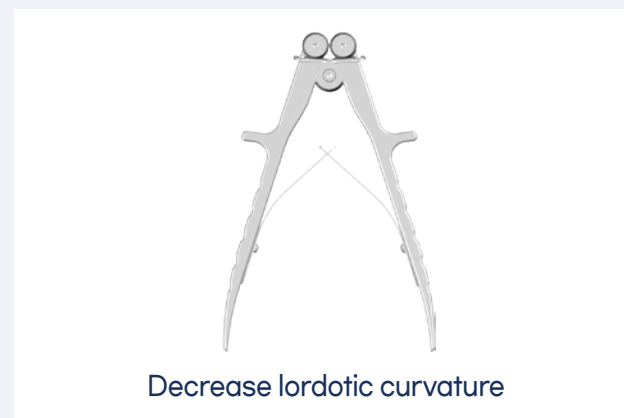

Figure 3
- Using the plate holder, position the appropriate plate on the vertebral column to confirm its suitability (Figure 3). When the plate is properly sized and positioned, the superior screw holes should align with the inferior of the superior vertebral body. The inferior screw holes should align with the superior of the inferior vertebral body.